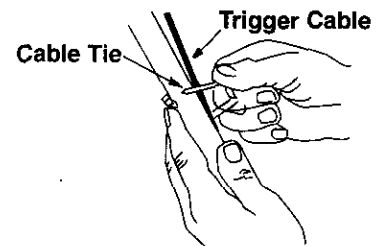

Figure 15
- Secure the right turn trigger cable to the right lower handle using cable tie provided in the hardware pack. Make sure not to wrap the drive cable. See Figure 15.
- Wrap the wire from the lamp down the right handle as shown in Figure 15.